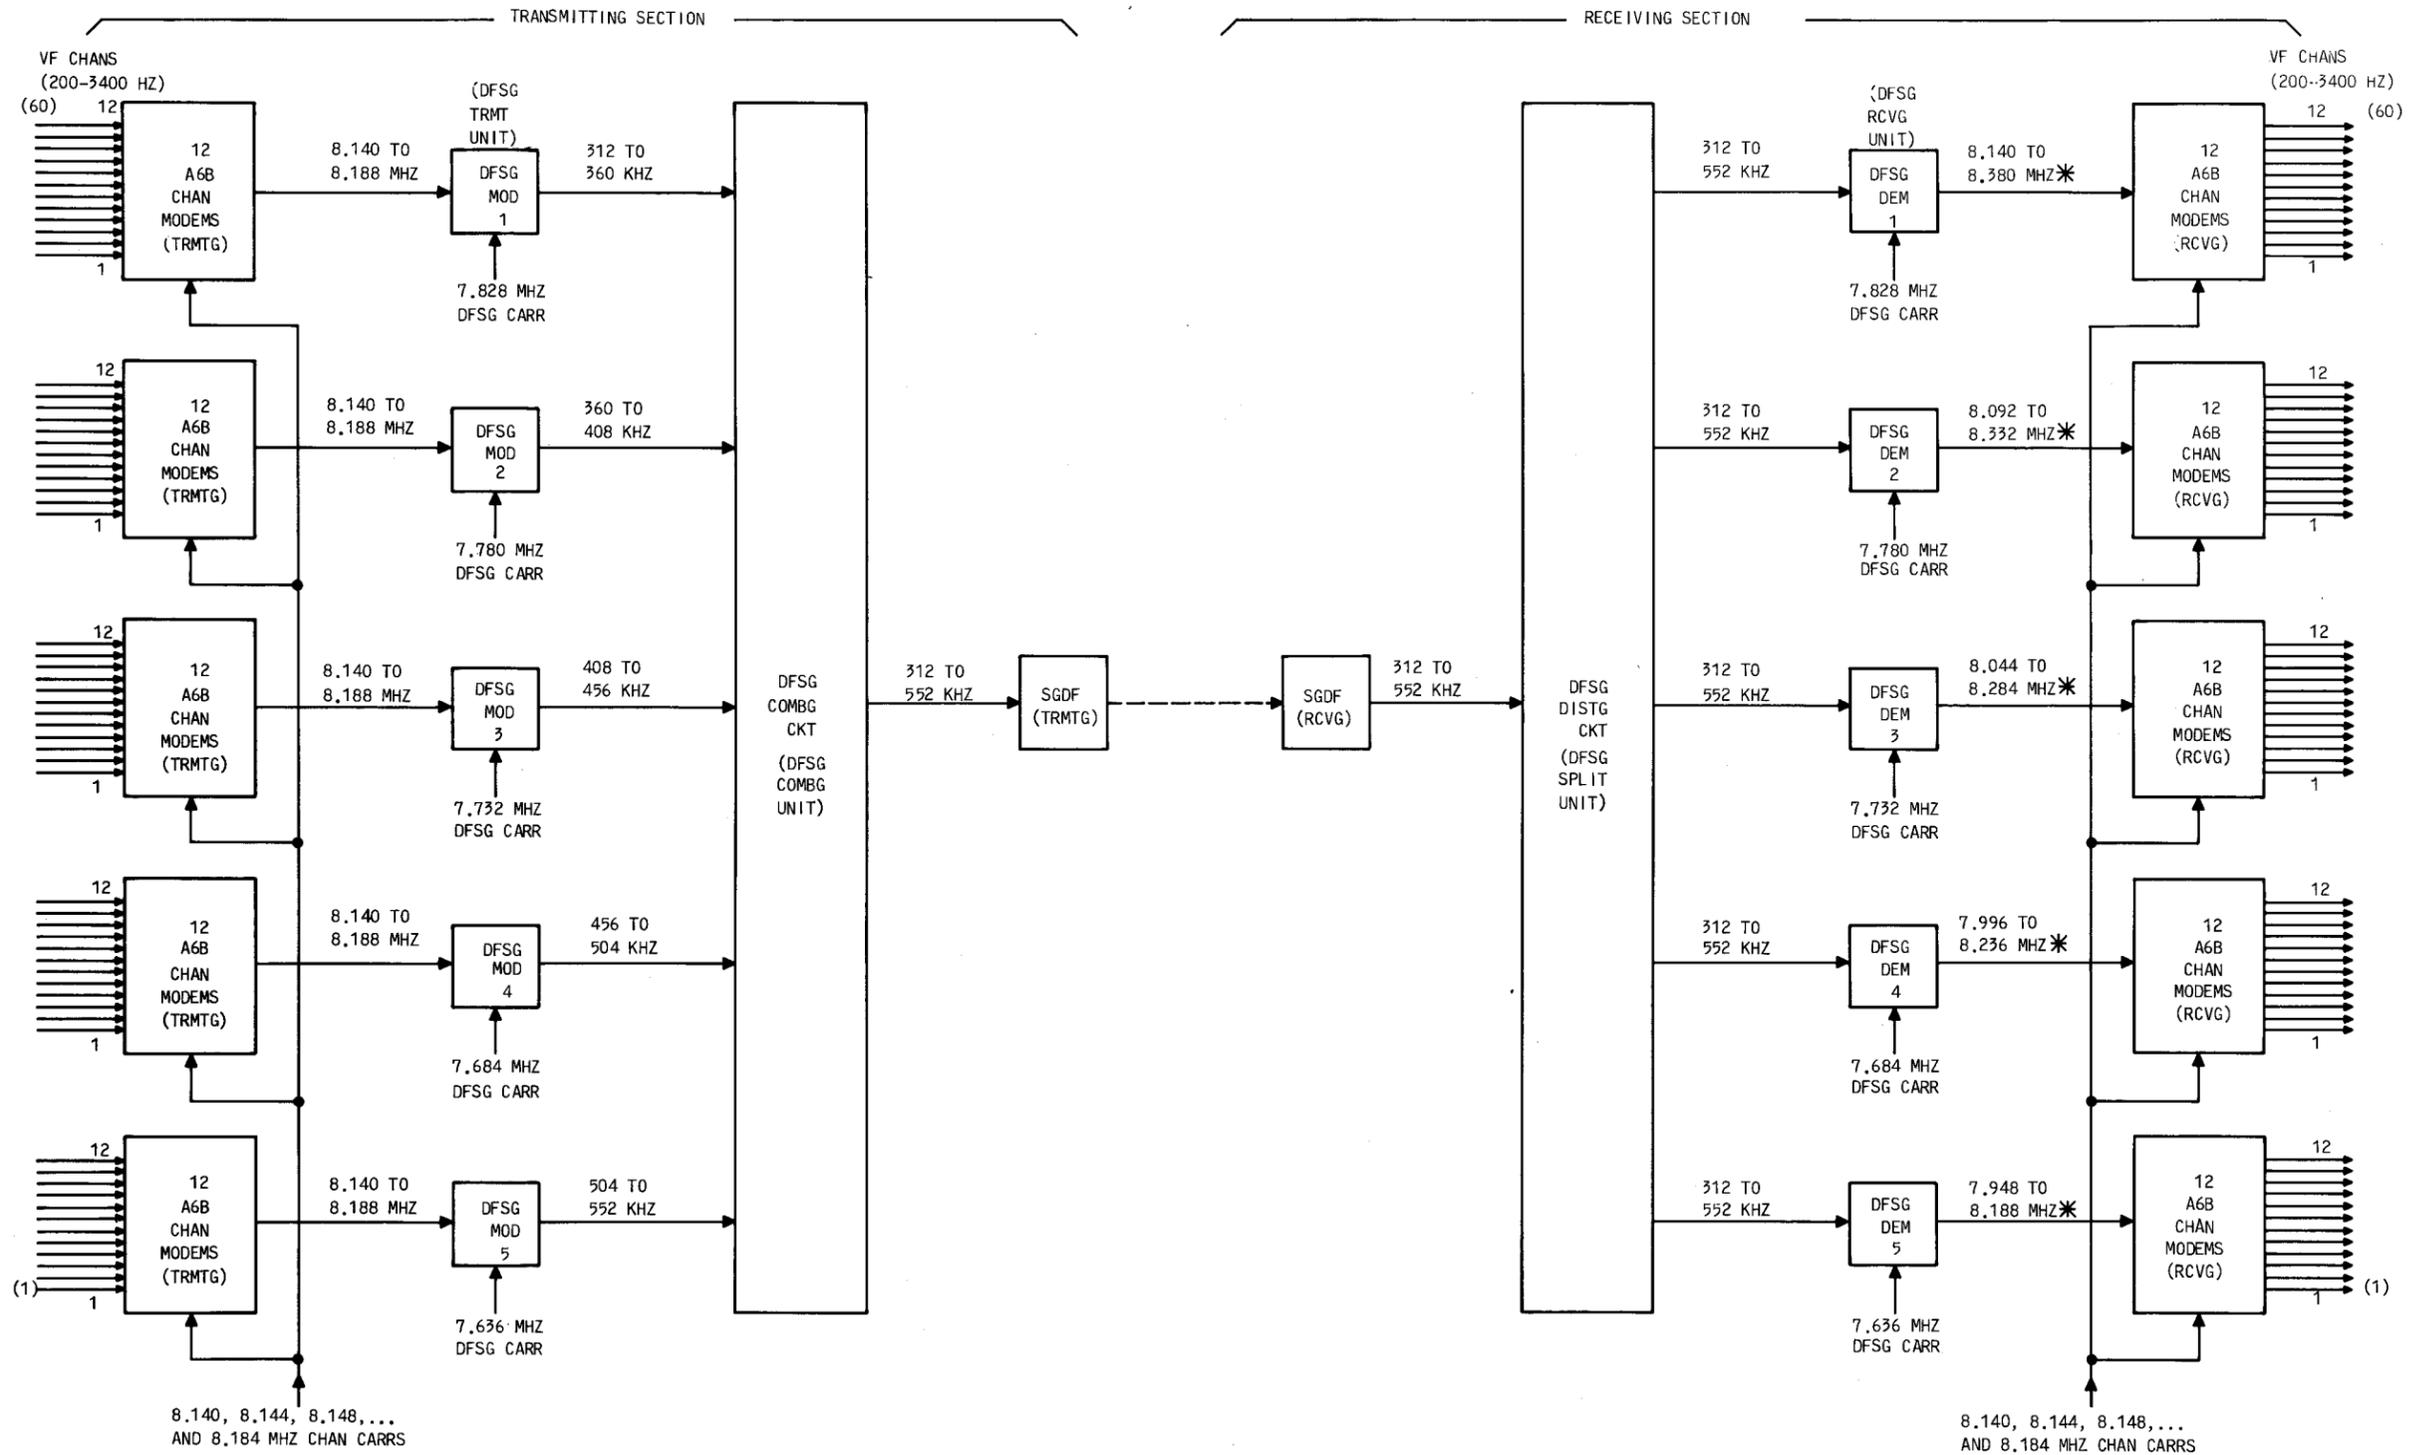

Fig. 3—Frequency Translations Used in DFSG Bank—Block Diagram
2.08 The transmitting section (Fig. 3) of each of the 60 channel modems used in the DFSG bank amplitude modulates one of 60 corresponding carrier frequencies with the speech information from one of 60 VF channels. The 60 carriers consist of five groups of 12 frequencies located at 4-kHz intervals in the range of 8.140 to 8.184
2.09 In the receiving section of the DFSG bank, the incoming SG (312 to 552 kHz) is divided into five paths and applied to five DFSG demodulators. These five 312- to 552-kHz bands are translated into five overlapping 240-kHz-wide (60-channel) bands in the range of 7.948 to 8.380 MHz (Fig. 3), each of which contains the 12-channel range of 8.140 to 8.188 MHz, but is displaced 48 kHz (12-channels) from the bands produced by adjacent DFSG demodulators. Thus, each of the five groups of 12-channel modems demodulates a different